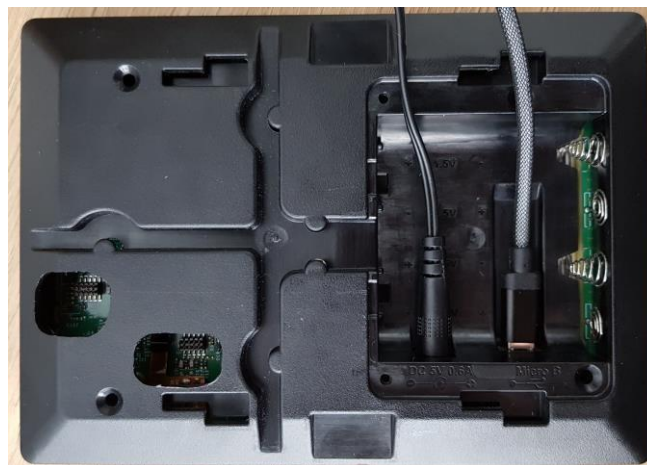

Figure 6-2: Tablet with power plug and USB cable connected
- Custom Display Tablet (see Figure 6-2)